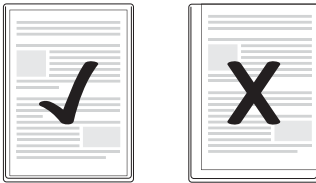

Fig. 1
- ▶ Ensure that all edges of the document have at least two millimetres of space to the edges of the laminating pouch, as shown in Fig. 1.
- ▶ Ensure that all edges of the document have at least two millimetres of space to the edges of the laminating pouch, as shown in Fig. 1 (see p. 36).